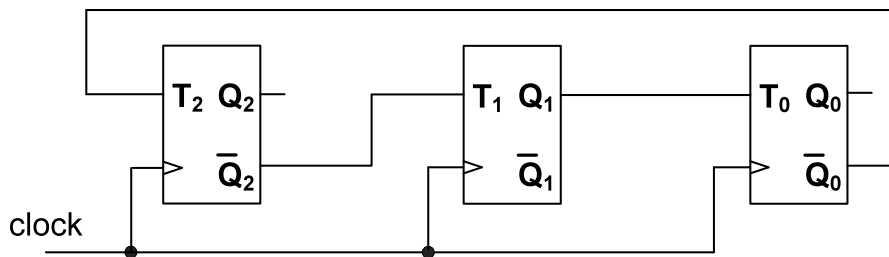

Figure 7 - Circuit for question 12 (it is assumed that after power up the state is 000).
12. The periodic sequence $Q_2Q_1Q_0$ generated by the circuit shown in Figure 7 is: